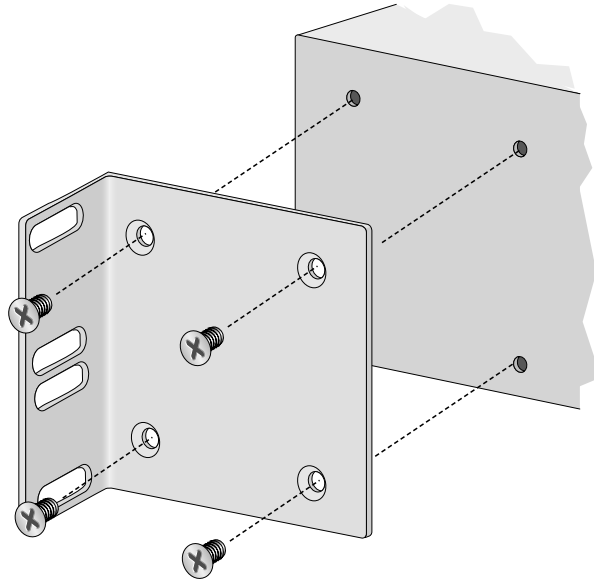

Figure 47 Attaching a Rack-mounting Bracket
3. Attach a rack-mounting bracket to one side of the power supply unit using four of the screws that came with the unit, as displayed in Figure 47.